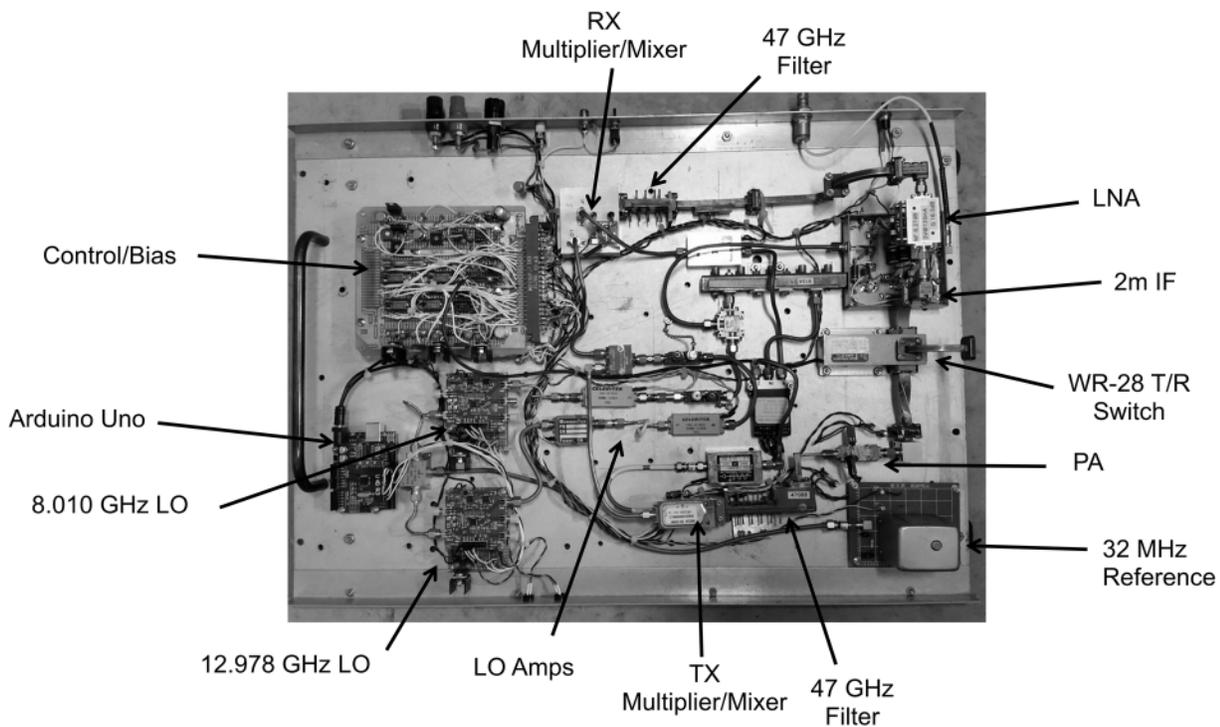

Figure 3 AA5C 47 GHz Transverter
A single controller can be used to control multiple PLLs or devices that use a SPI bus interface. An additional I/O pin needs to be assigned for each extra device connected to the SPI bus for the load enable line (LE) and called out separately in the code. I recently completed a 47 GHz transverter that uses two ADF5355 evaluation boards for the LOs. It uses a double conversion frequency plan. The two ADF5355 evaluation boards are controlled by one Arduino Uno (Figure 3 AA5C 47 GHz Transverter) as shown in the lower left of the figure. The additional amplifiers needed to bring the relatively low (~ -8 dBm) output power levels of the ADF5355 evaluation boards (two 12 GHz amplifiers are required for the 12,978 MHz LO and one for the 8.01 GHz LO) can also be seen in the picture. The 32 MHz reference signal is supplied to each synthesizer from a two-way power splitter.